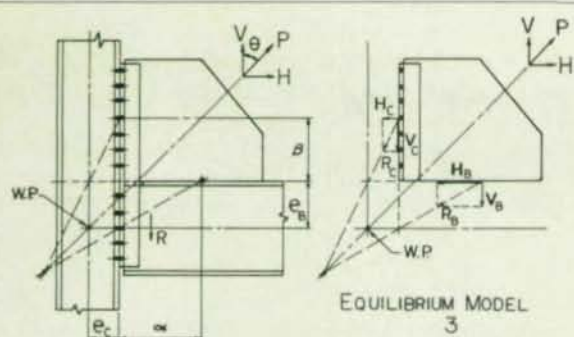

Figure 4: Model 3, an equilibrium model with no couples
- **Model 3.** This model is the result of the author's search for an equilibrium model for bracing connections that achieves equilibrium for all components of the connection with linear forces only, i.e., no couples. It is the most efficient—it yields the least expensive designs—of the three models presented here but is also the most complex in terms of calculations required. Note, however, that this is not a serious problem because a computer program makes the calculation aspect of all three models of little importance. The force distributions for the gusset, beam, and column of Model 3 are given in Figures 4 and 5.
The beam shear R in Figures 4 and 5 is shown applied to the beam-to-column connection. If the shear is large, it may be desirable to distribute it to the gusset-to-column connection as well. In this case the gusset serves as a haunch and the gusset-to-beam forces must be adjusted to effect the desired distribution of R.